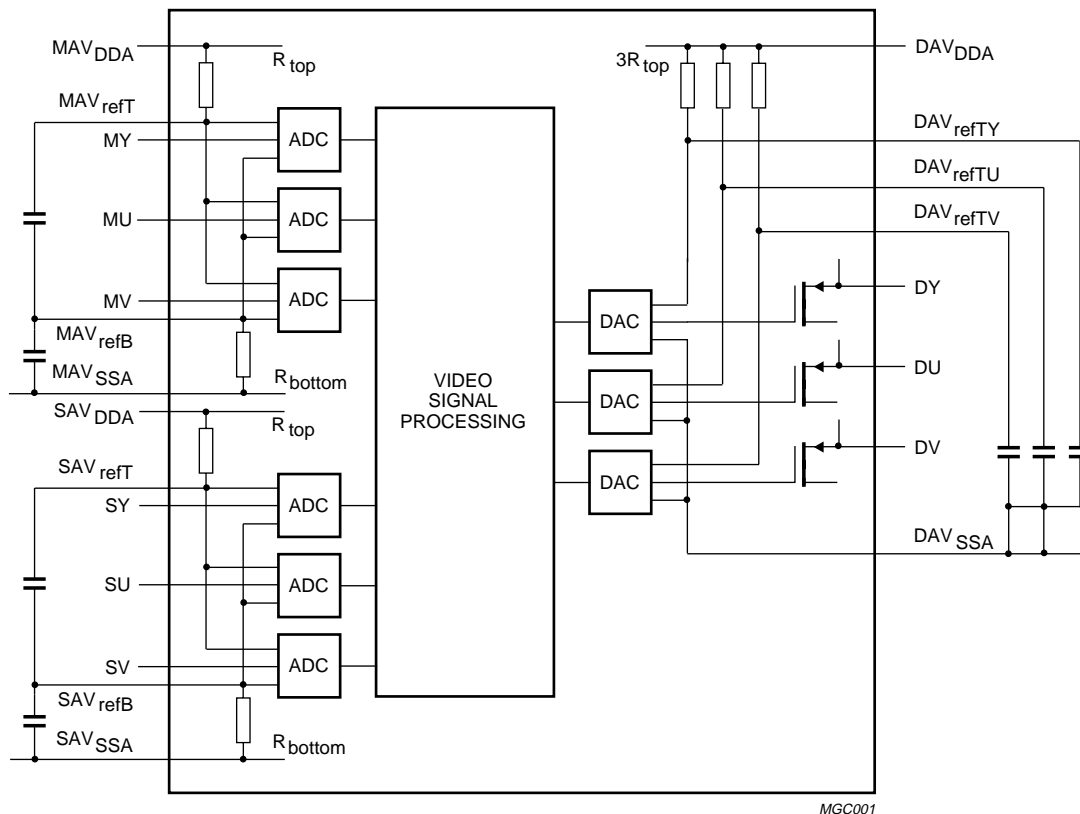

Fig.20 Analog application diagram ADCs and DACs.
3. The input configuration of the ADCs is depicted in Fig.20. The minimum difference $AV_{\text{refT}} - AV_{\text{refB}}$ should be larger than 1.0 V. The reference voltages can be calculated as follows:
Fig.20 shows how the ADCs and the DACs can be connected in the application.